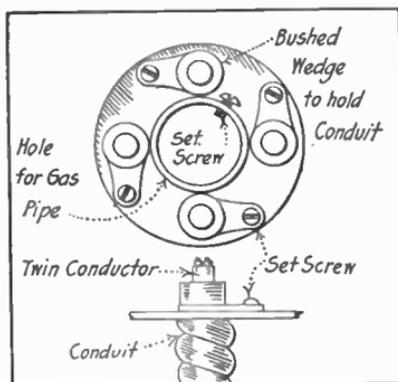

Fig. 4. Cast iron outlet plate for flexible-steel conduit or flexible-steel armored cable
*Outlet plates, Fig. 4,* may be used with armored cable or with flexible conduit. In the plate illustrated, which is for a combination gas-and-electric outlet, wedge-bushings are provided for clamping the sheath of the cable or the conduit in the fitting, and for providing a rounded edge upon which the conductor may bear. The hole in the center of the plate is for the admission of the gas pipe, and a set-screw is provided for securing the plate to the pipe and for grounding it thereon.